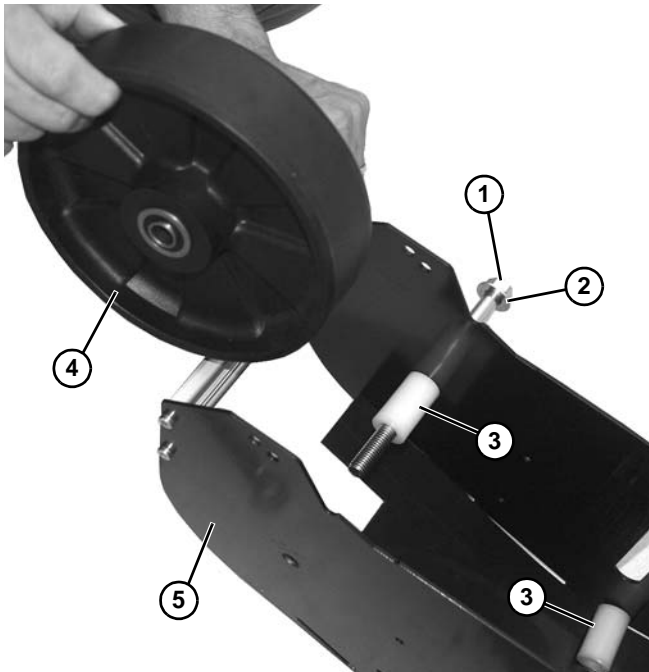

Figure 137
4. Remove bolt (**Figure 137, item 1**), washer (**Figure 137, item 2**), two spacers (**Figure 137, item 3**), and wheel (**Figure 137, item 4**) from take up assembly housing (**Figure 137, item 5**).